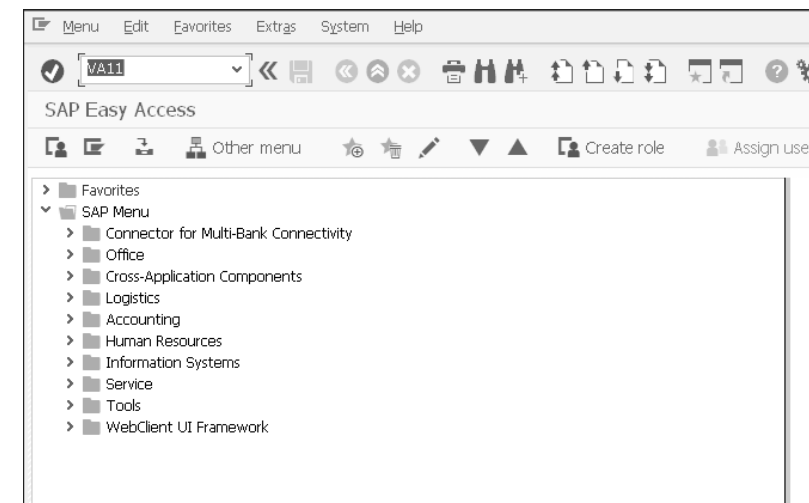

Figure 4.2 SAP Easy Access Menu: Transaction Code Field
1. Enter Transaction code VA11, as shown in Figure 4.2.